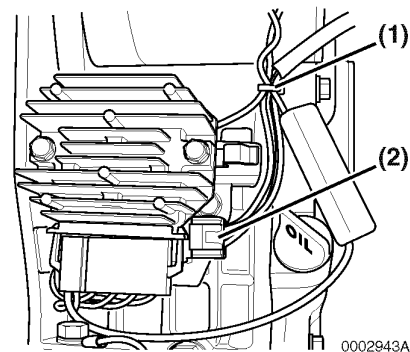

Figure 7-39
2. Remove the tie straps (**Figure 7-39, (1)**) and disconnect the wire harness and connector from the control panel to the rectifier (**Figure 7-39, (2)**).